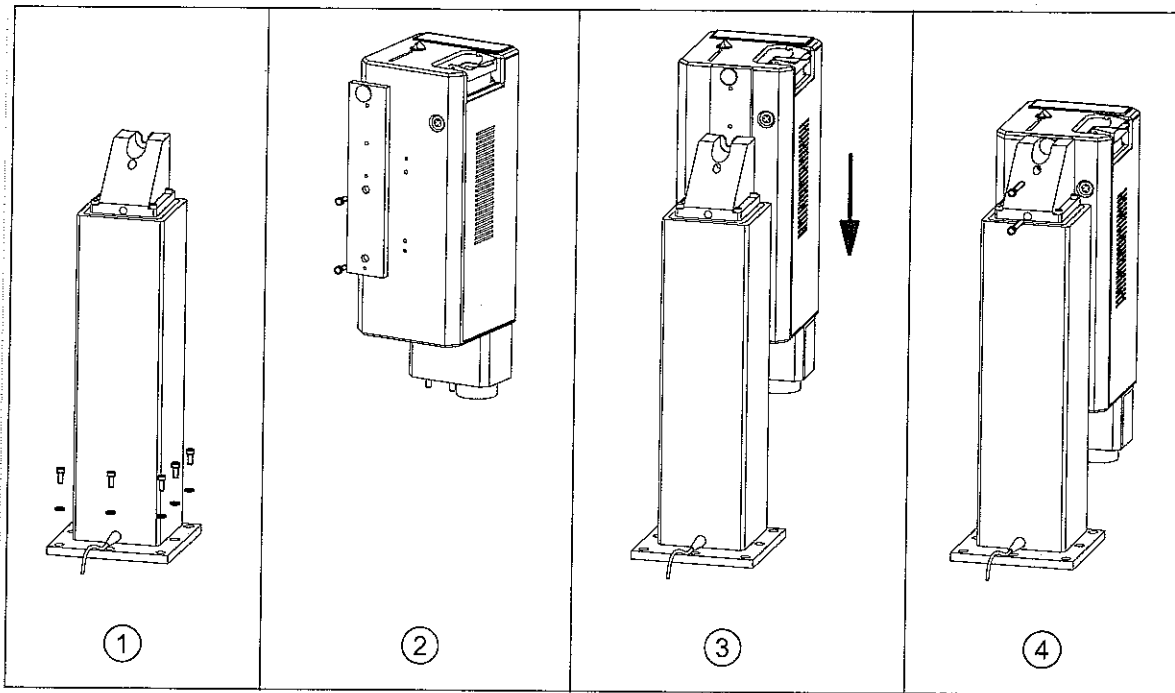

Figure A.5: Mounting the scanning head to the telescope drive
1. Fix the telescope drive at the measurement location using the 6 screws of the assembly kit (refer to figure A.5, picture 1).
3. Attach the adapter plate on the underside of the scanning head as shown in figure A.5, picture 2.
4. Hang up the scanning head with the adapter plate above at the telescope drive (refer to figure A.5, picture 3).
5. Secure the scanning head by fixing the adapter plate to the telescope drive using 2 Allen screws (refer to figure A.5, picture 4).